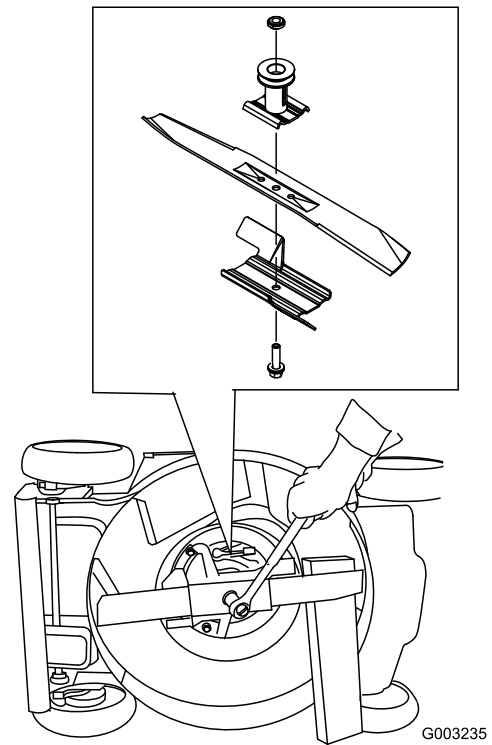

Figure 44
3. Use a block of wood to hold the blade steady (Figure 44).